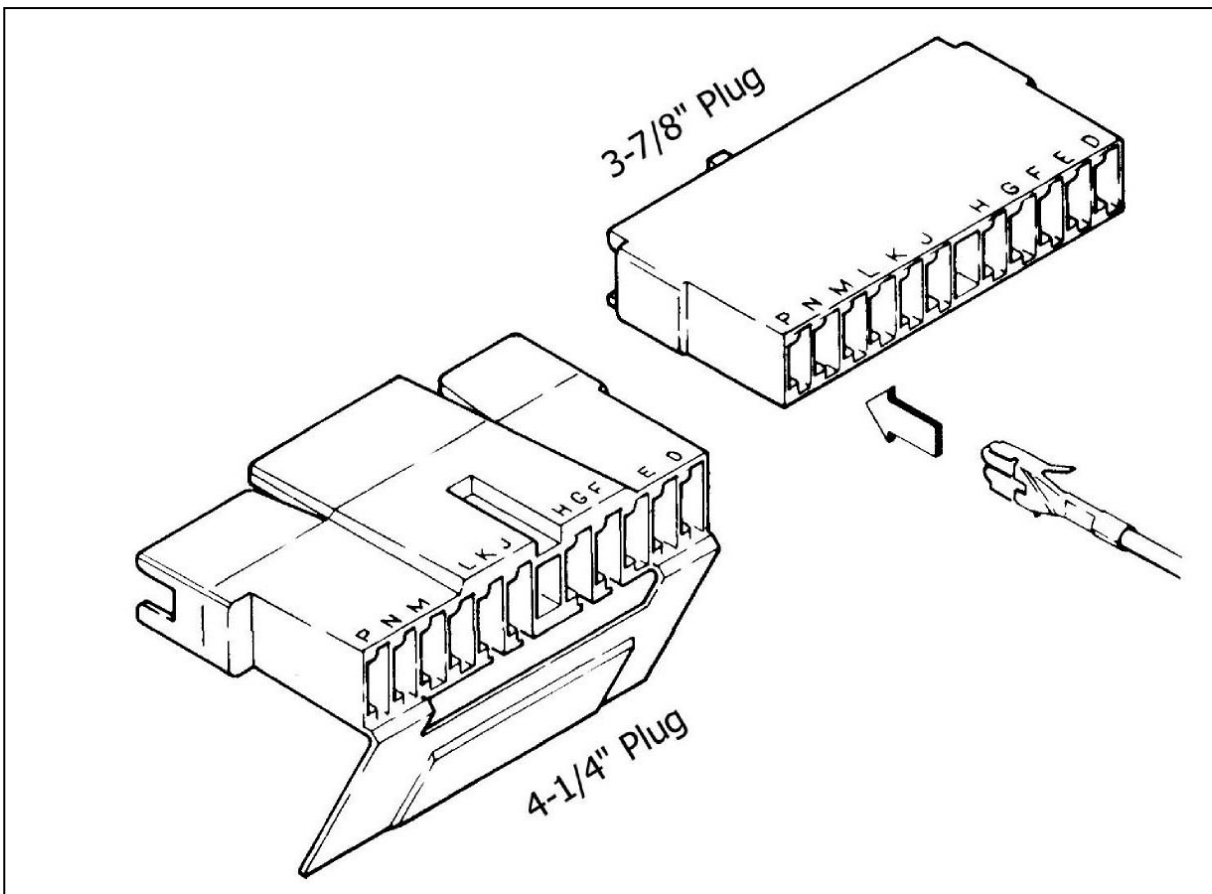

Figure 7.5 GM Turn Signal Connector
To remove the old terminals from your plastic housing, insert a paper clip or an extra small screwdriver into the small slot at the top of the opening opposite of where the wire is inserted and this will release the tang holding the wire in place. Pull the wire and it should release from the housing. See **Figure 7.5**
Note: *The terminals will only insert into the connector ONE WAY, as shown in Figure 7.5. Make certain you are inserting the wire into the CORRECT LOCATION as the terminals are difficult if not impossible to remove once inserted.*
- 7.5.6** If the steering column has been changed to a later model with different turn signal plugs and possibly a different ignition kit, use Painless part #30805 (Steering Column Pigtail Kit) to assist in the installation. This kit contains the turn signal, ignition switch connectors and color-coded pigtails to splice into the main harness. (See **Figure 7.5**)